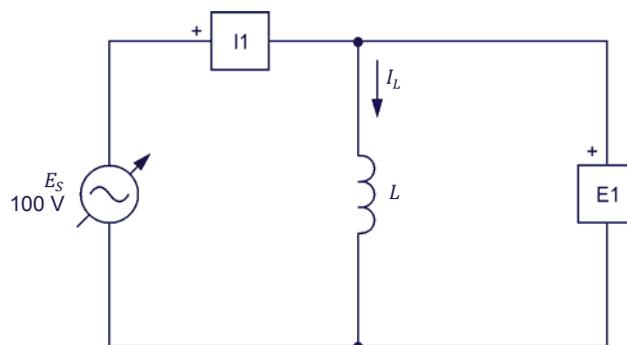

Figure 2-4. AC circuit containing an inductor.
6. Set up the circuit shown in Figure 2-4.
The value of the inductance  $L$  to be used in the circuit of Figure 2-4 depends on the frequency of the ac power source, as indicated in Table 2-1.